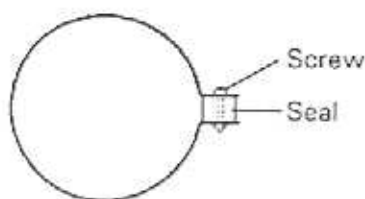

Fig. 14a
- 5.5.1 Assemble the large and small maintenance clips as fig.14a
5.5.21 Assemble the large and small maintenance clips as shown in fig 14a.